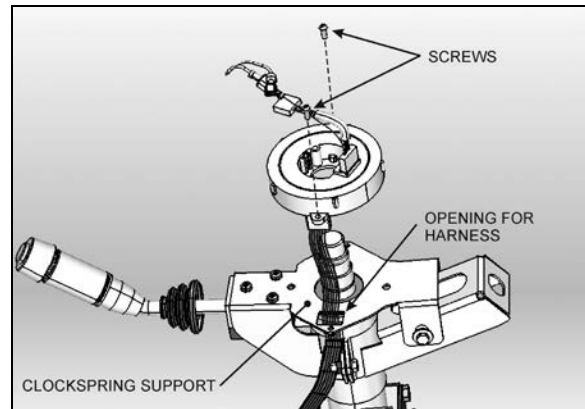

FIGURE 12: CLOCKSPRING INSTALLATION
3. Route the new clockspring harness through the opening in the clockspring support (Fig. 12). Plug the connector at the base of the steering wheel column and fix harness along the steering wheel column.